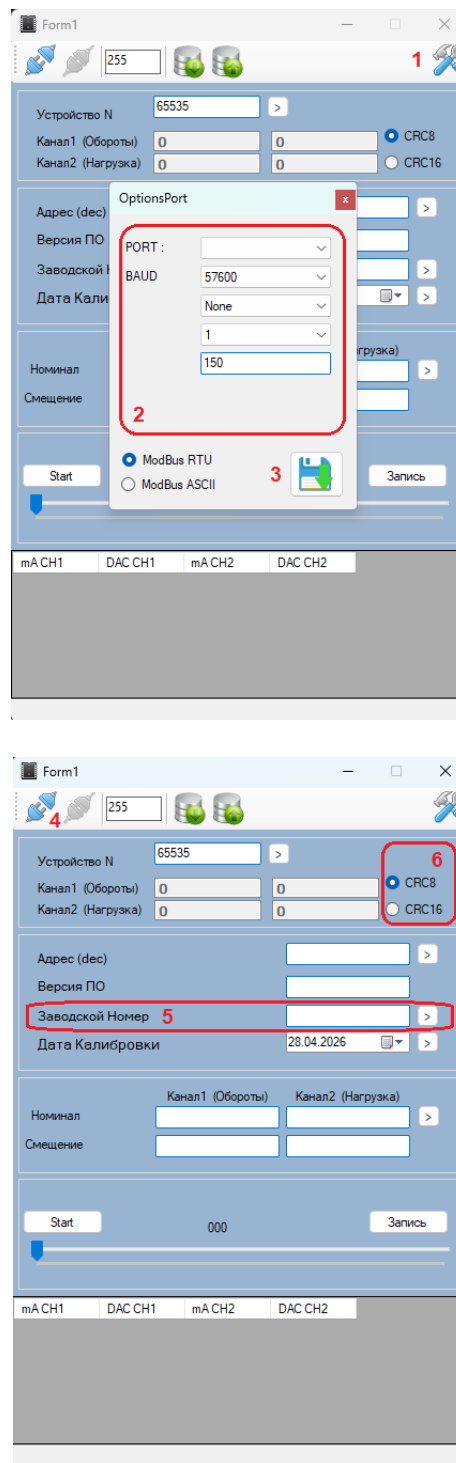

Figure 11. mm_calibrat service software interface (the PS-150(RA) setup)
2. Setup COM-port in the mm_calibrat software by clicking button 1 (see Fig. 11):
- The rest of parameters according to the field 2 on Fig. 11;